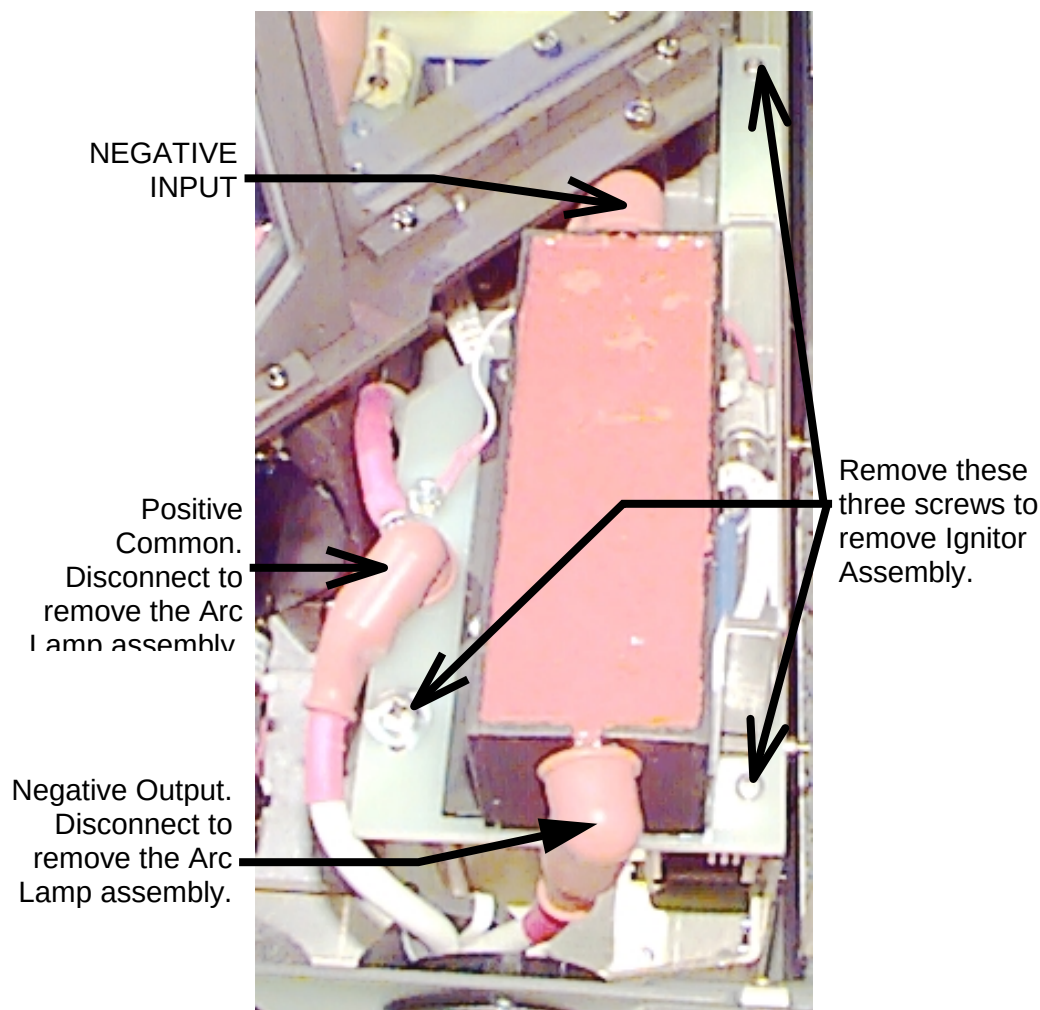

Figure 4-5. Ignitor Assembly.
7. Label and disconnect both Arc Lamp cables from the Ignitor board (Figure 4-5). These are called out as "Positive Common" and "Negative Output" in Figure 4-5. Return these cables with the Arc Lamp assembly
2. Disconnect and label the cables attached to the Ignitor (see Figure 4-5).
3. Remove the 3 screws securing the Ignitor Assembly (refer to Figure 4-5).